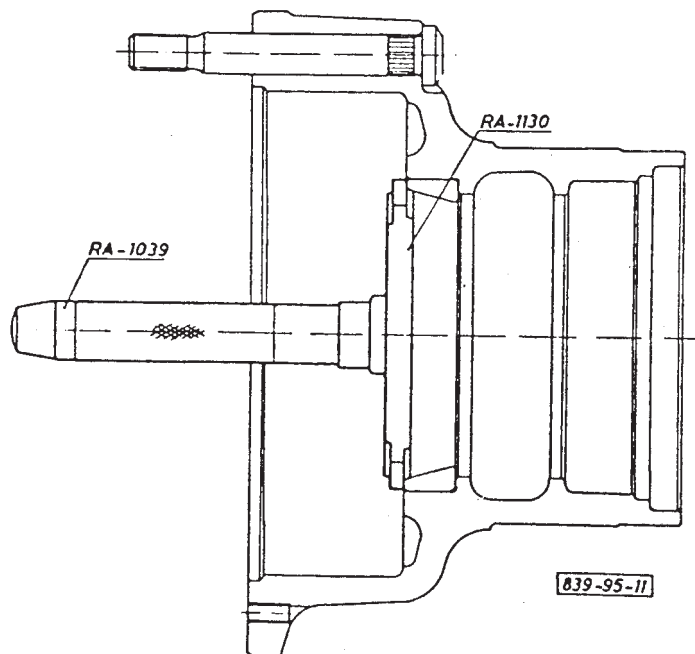

Fig. 2.: PRESSING IN THE CUPS OF THE TAPER ROLLER BEARINGS
By means of the tools shown in Fig. 2, press the cup of the outer taper roller bearing (34) into the wheel hub. Turn the wheel hub over and by means of the same tools